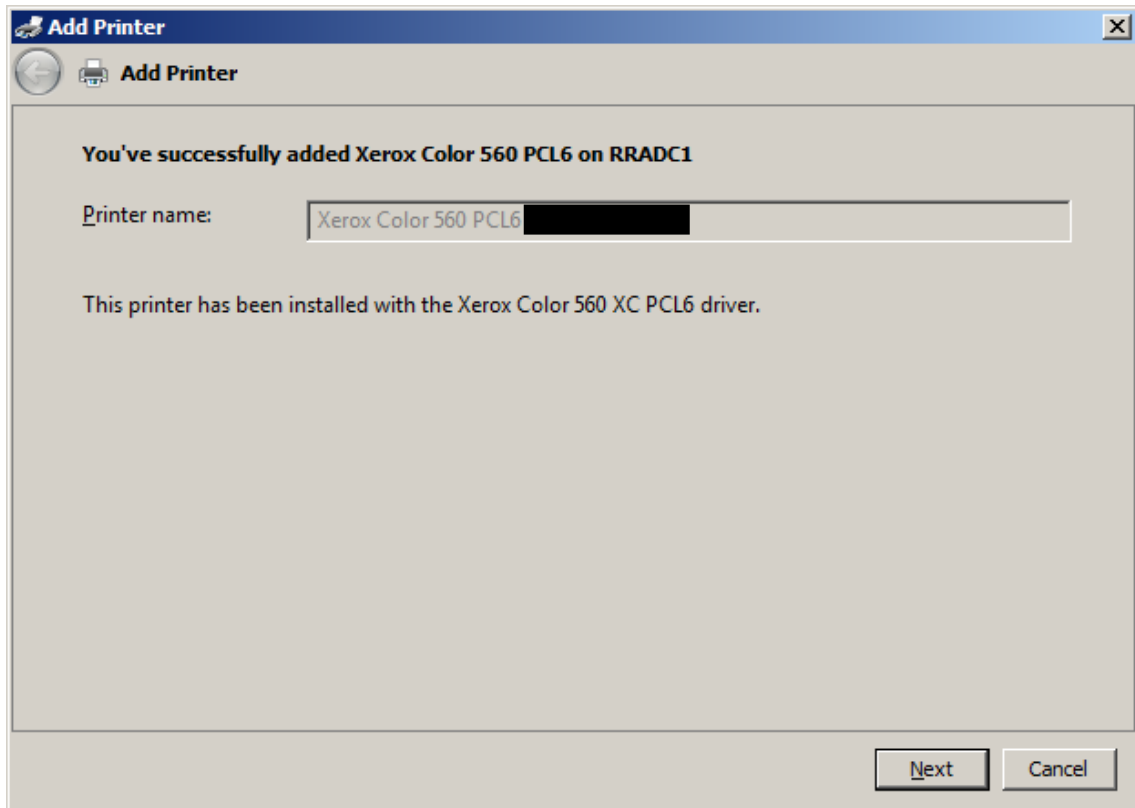

Figure 10.34 – Printer successfully added.
- 15) If Windows was able to automatically configure the printer you will see a screen similar to Figure 10.34 below and you can click Next.